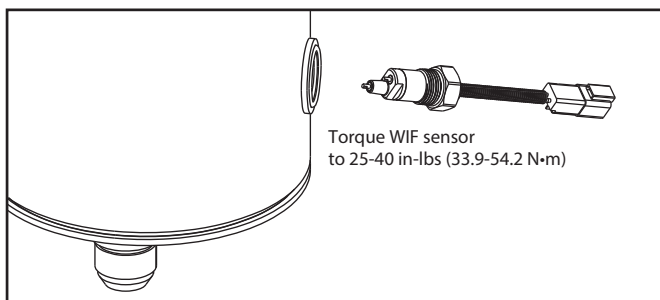

Figure 2 - WIF Probe Installation
Install the WIF Probe (SP1428) into the side of the Sea Pro®. (See Figure 2, which references a single unit. For a duplex unit, use WIF Probe SP1641 and follow the same procedure.)
5. Torque to 25-40 in-lbs (2.82-4.52 N·m). (See Figure 2)